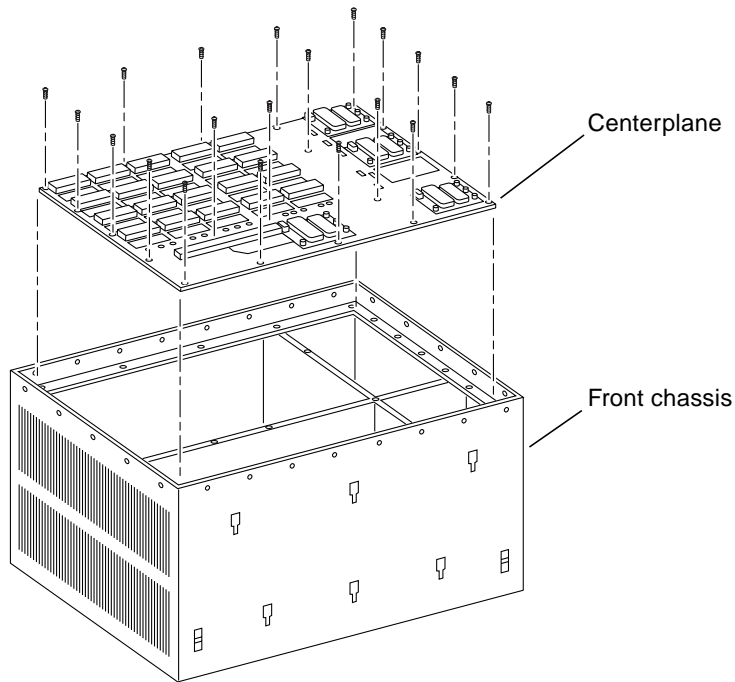

FIGURE 1-9 Centerplane Replacement Detail
3. Remove the 20 screws that hold the centerplane to the front chassis (FIGURE 1-9).